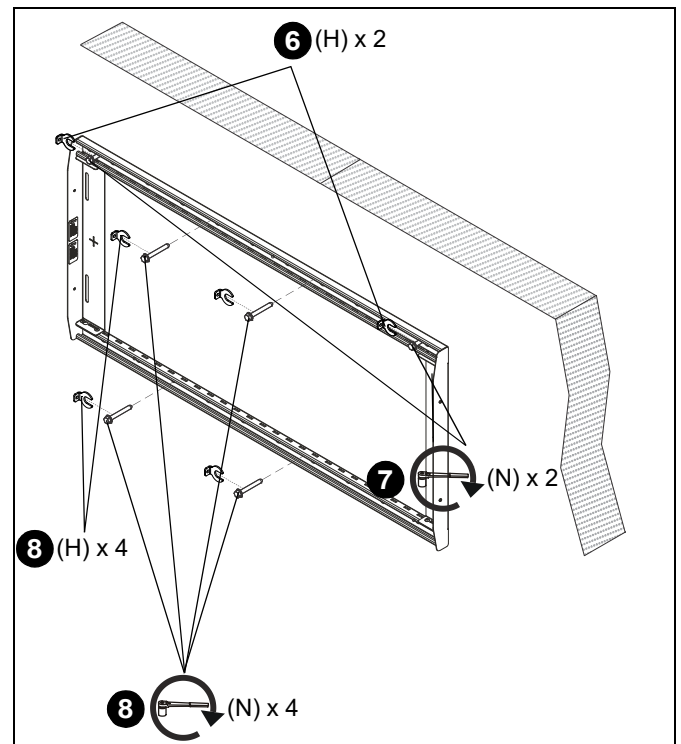

Figure 22
6. Place one slotted washer (H) over each flanged lag bolt. (See Figure 22)
7. Tighten lag bolts to secure rail assembly (C) to wall at upper mounting slots. (See Figure 22)
8. Use four 5/16 x 2-1/2" flanged lag bolts (N) and four 5/16" slotted washers (H) to attach the mount to the wall through remaining upper and lower mounting holes. (See Figure 22)